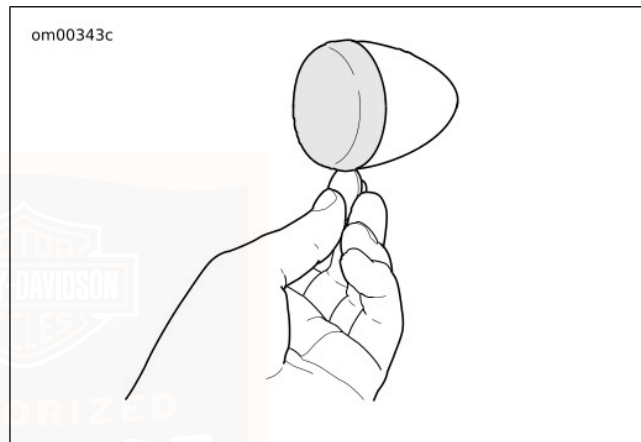

Figure 85. Remove Lens
1. See Figure 85. Insert coin in notch. Carefully twist until the lens cap pops out of the lamp housing.